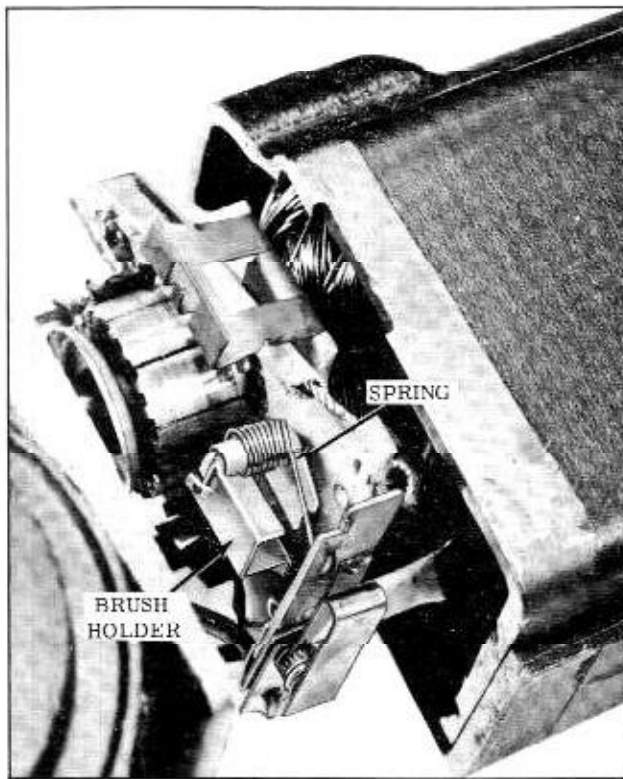

Fig. 13-117 Installing Armature
3. Unload the brush springs, using a small wire hook, by pulling the brush end of spring up out of the slot of brush holder and hooking the end of spring on the edge of the spring holder. (Fig. 13-117)
1. Unload brush spring pressure by lifting spring off end of brush and placing off to one side of brush holder. (Fig. 13-117)